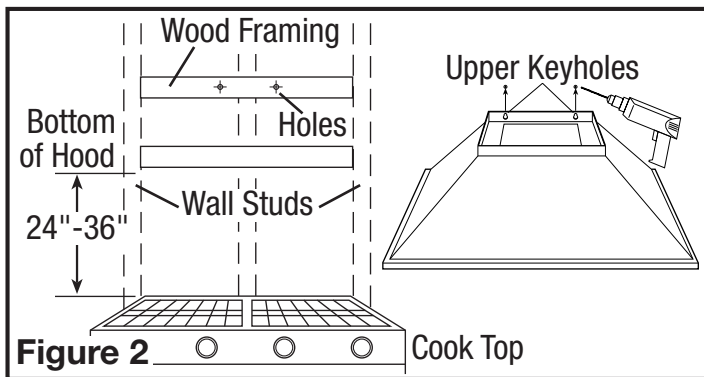

Figure 2
- Locate and mark the upper keyhole positions on the wall. Select mounting height of minimum of 24" for electric cooking surface or 27" for gas cooking surface from the bottom edge of the hood. Bottom edge of hood should not exceed 36" height above cooking surface (Figure 2).